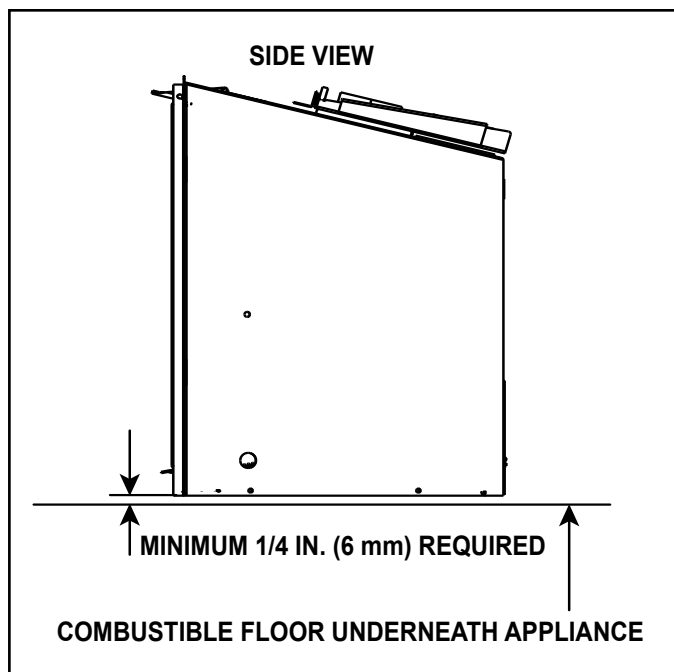

Figure 3.4 Solid Fuel Floor Clearance
- A minimum 1/4 in. (6 mm) gap from the bottom of the appliance to the metal floor of the solid fuel firebox is **REQUIRED**. See side view in Figure 3.4.